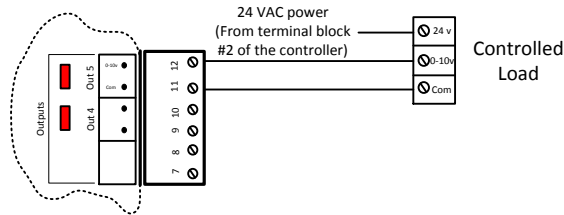

Figure 8: Connecting the analog output (controller powered)
- 1) The C1000 powers the load and provides a control signal (see Figure 8)